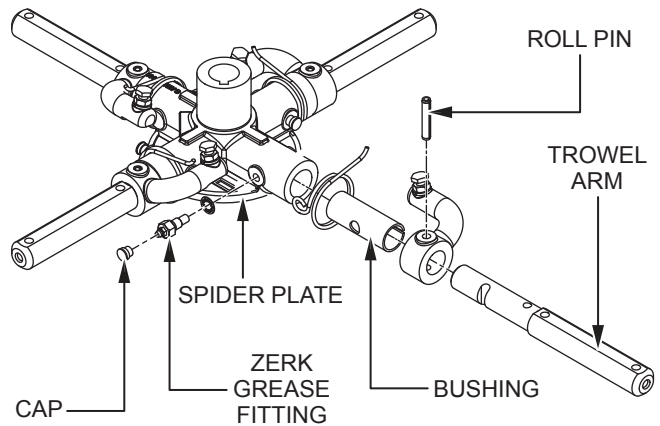

**Figure 63. Blade Removal**
2. Remove the bolts and lock washers from each of the trowel arms, then remove the blades as shown in Figure 63.